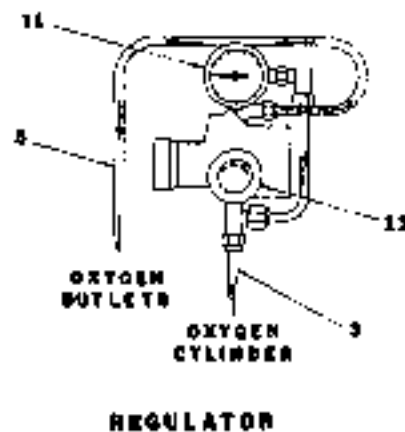

Fig. 12-1 Oxygen system
2.1 GENERAL DESCRIPTION (See Fig. 12-1)